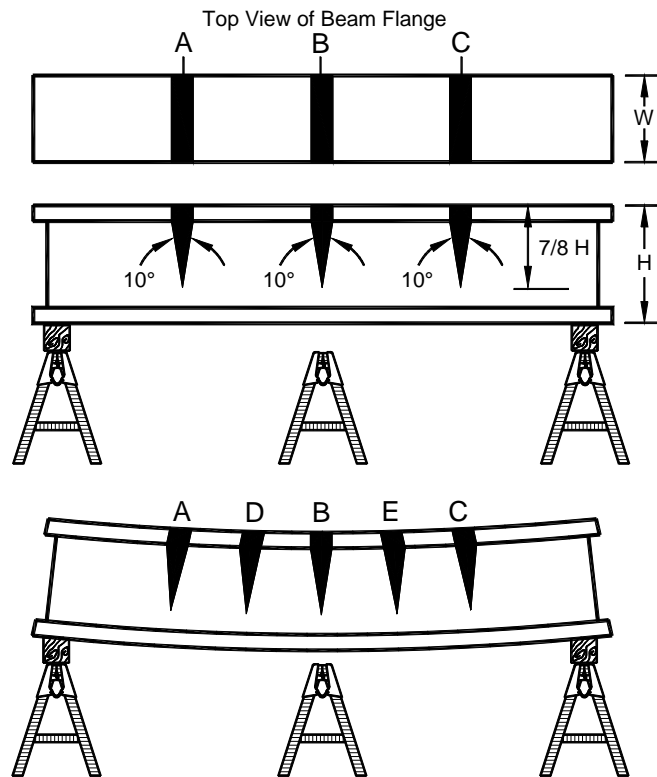

Figure 4-27. Cambering an I-beam.
4. At points A, B, and C as shown in Figure 4-27 (top), mark 10° pie-shaped sections running $\frac{7}{8}$ of the way across the web and the matching areas on the top of the flange. Although 30° segments produce maximum bending in a single heating and cooling cycle, we begin with 10° segments so as not to over shoot the final bend. As we gain experience we can use wider segments.
5. In subdued light, heat the beam at point B to a dull red with an oxyfuel rosebud tip in the pattern shown in Figure 4-27 (bottom). Start heating at the bottom or point of the pie section. Consider using two torches, one on each side of the flange working opposite each other. When the